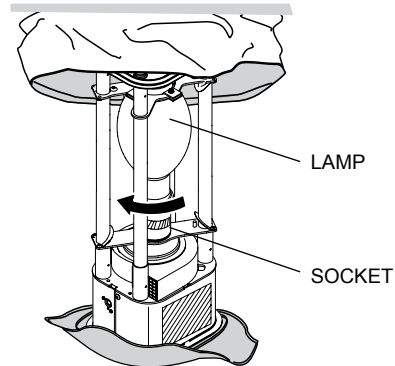

Figure 29. Removing Lamp
4. Press tabs on the lamp holder and lift up holder to release lamp. Remove the lamp from the lamp socket by turning lamp counterclockwise. See Figure 29.